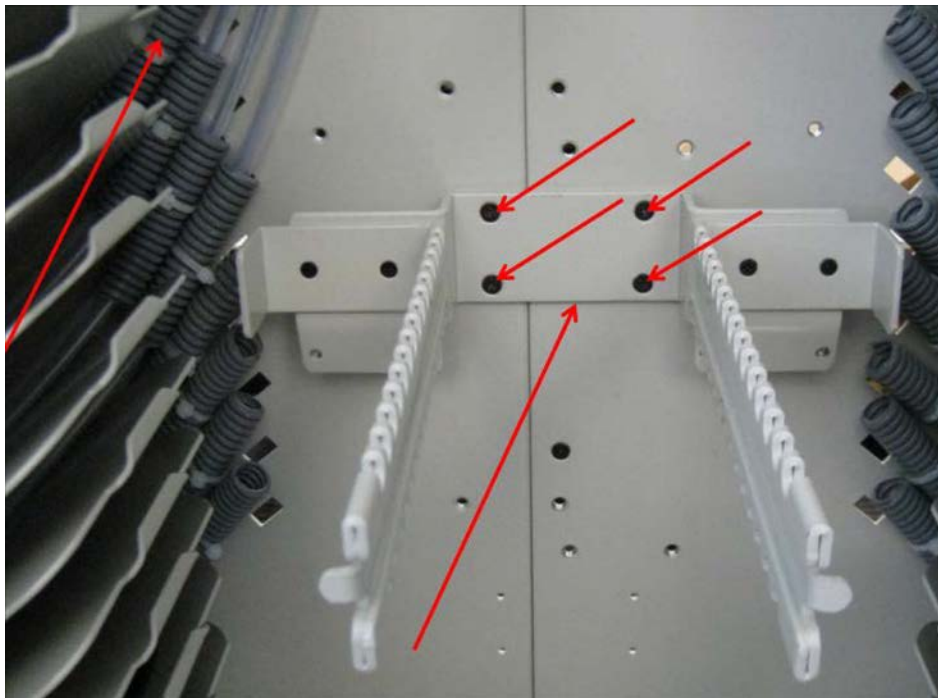

Figure 30. OMX Cabinet Vertical Management Removed
1. Corrugated tubing installation: Remove OMX Vertical Management hardware from inside center of cabinet marking on back wall of cabinet the position they came from to aid in reinstallation later. Refer to Figure 30.